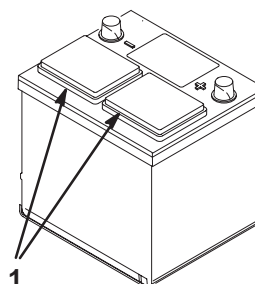

Figure 10
2. Clean the top of the battery and remove the vent caps (Fig. 10).